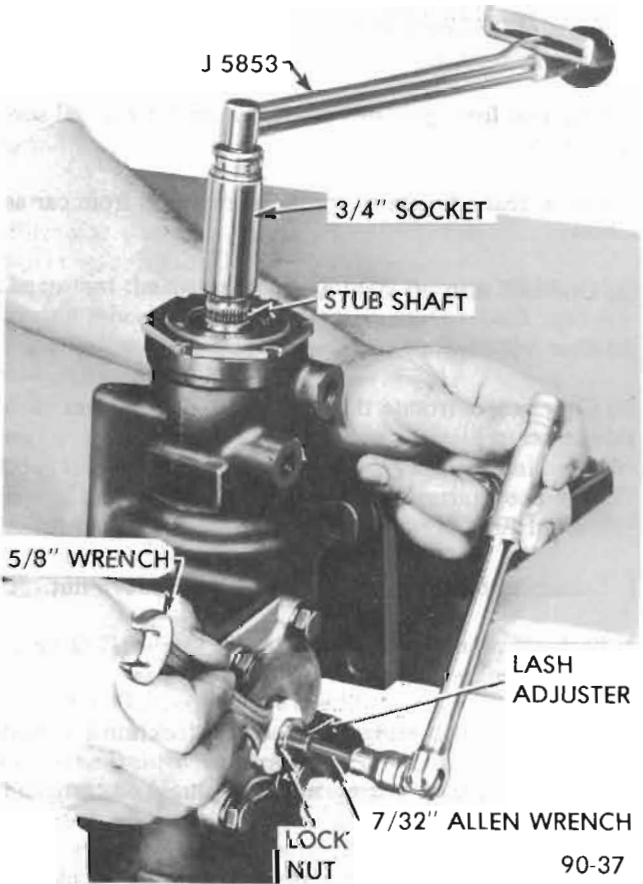

Figure 90-32 Pitman Shaft Over-Center Adjustment
1. With gear on center, loosen pitman shaft adjuster lock nut and tighten pitman shaft lash adjuster screw. Retighten lock nut (holding lash adjuster screw to keep it from turning) and measure gear over center torque at stub shaft. When checking over center torque, torque wrench should be rotated through a 180 degree arc either side of center and readings taken going over center. Continue adjusting lash adjuster screw and checking over center torque (with lock nut tightened) until correct over center torque is obtained. See Figure 90-32. Limits for new and old gears are different, as follows: